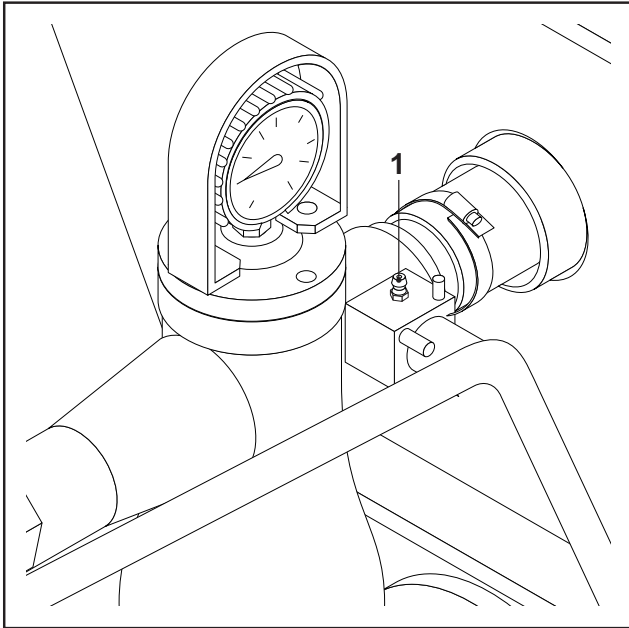

FIG.35
- Grease the by-pass lever using the greaser (FIG.35-REF.1) positioned on the flow valve body of the piston pump.